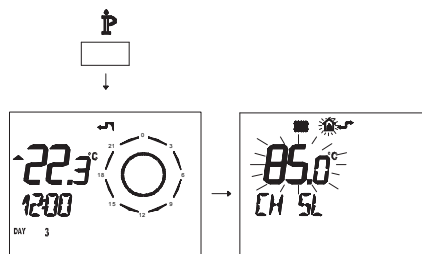

Fig. 7.22
- Press button  for more than 3 seconds to enter in **INFO** (Fig. 7.22) mode.